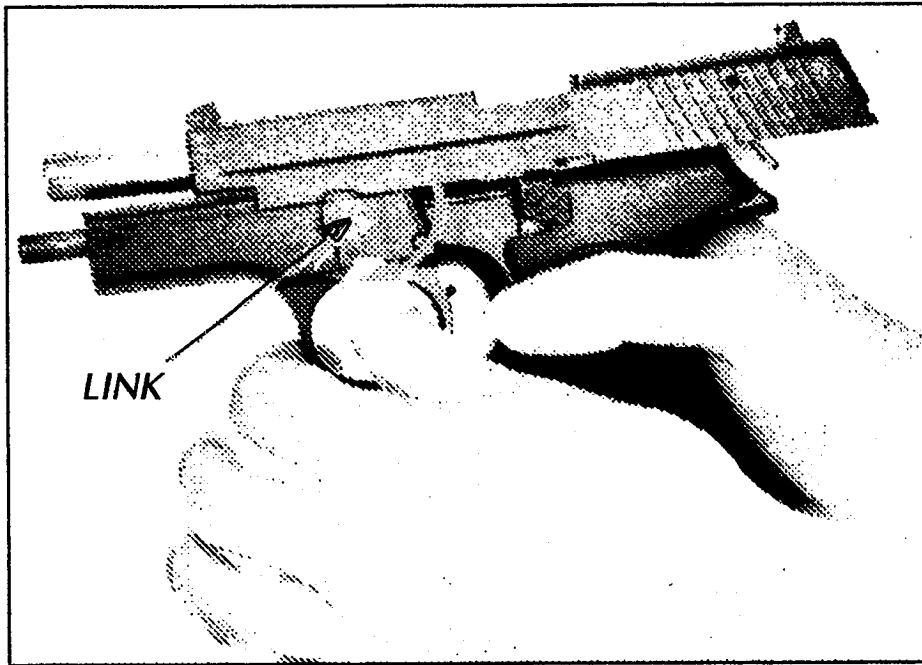

Fig. 12 SWIVELING BARREL LINK
4. Swivel barrel link by 90° (downwards - Fig. 12) to release the barrel. The slide can be separated from the frame now.